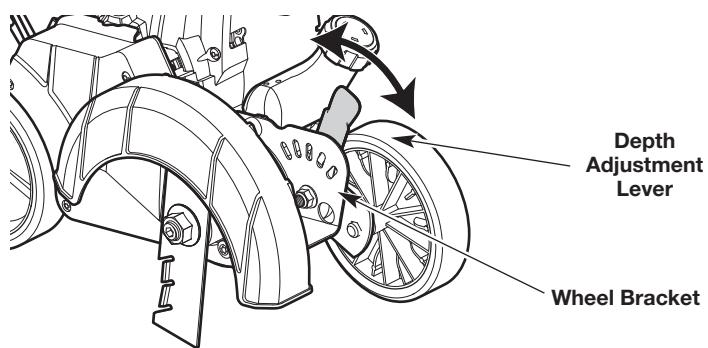

Fig. 11
1. Gently pull the depth adjustment lever away from the wheel bracket (Fig. 11).